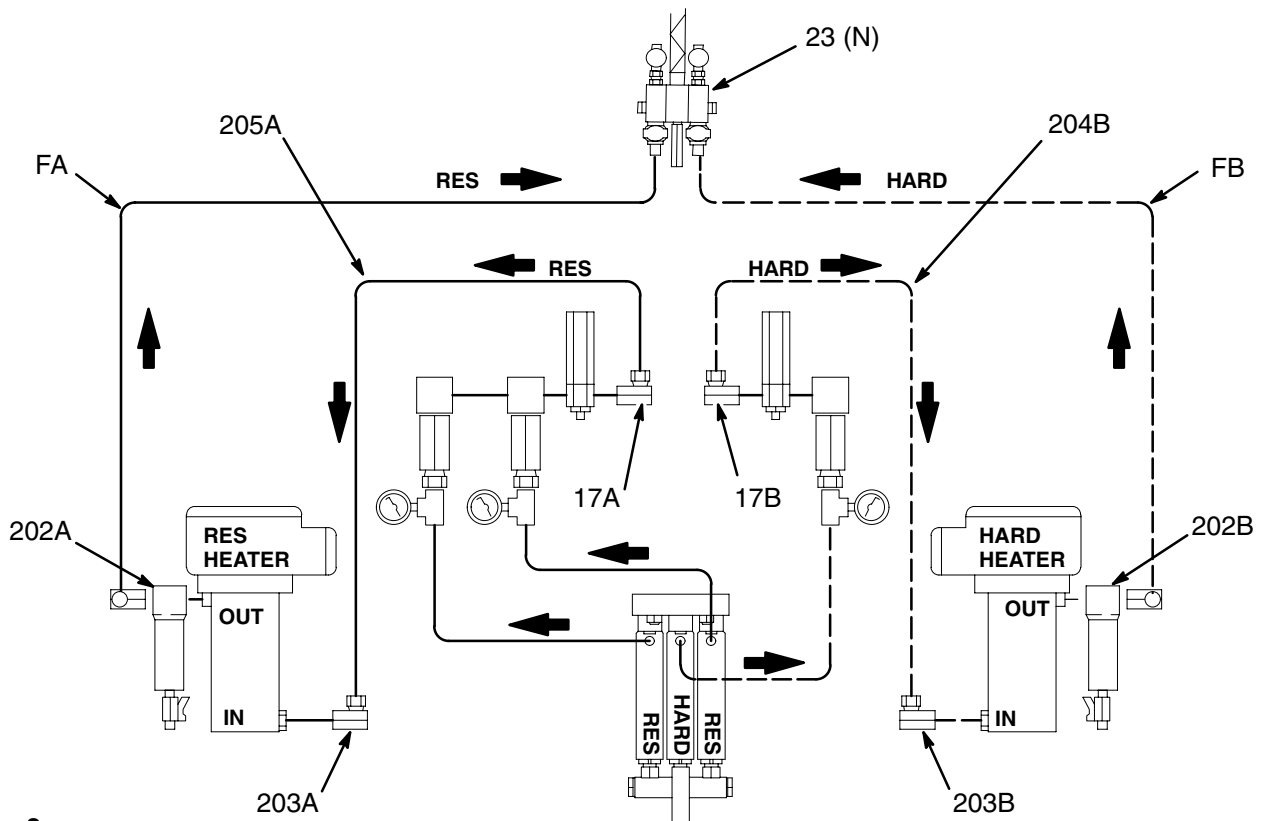

Fig. 8
**NOTE:** You must provide two hoses (FA, FB in Fig.8) and fittings to run from the heater outlets to the mixer manifold inlets.
**NOTE:** To accommodate two resin fluid hoses, the mixer manifold (23) must be disconnected from the bracket and mounted remotely.
1. Loosen the swivel of the unions (17A, 17B) to remove the elbow (16A, 16B) on each side of the mixer manifold (23). Turn the unions (17A, 17B) so the outlet faces up. See Fig. 8 and 9.
2. Connect a new hardener fluid hose (204B) between the union (17B) and the swivel (203B) at the heater inlet. See Fig. 8.
3. Install another hardener fluid hose (FB) between the heater outlet elbow (202B) and the hardener side of the mixer manifold (23). See Fig. 8.